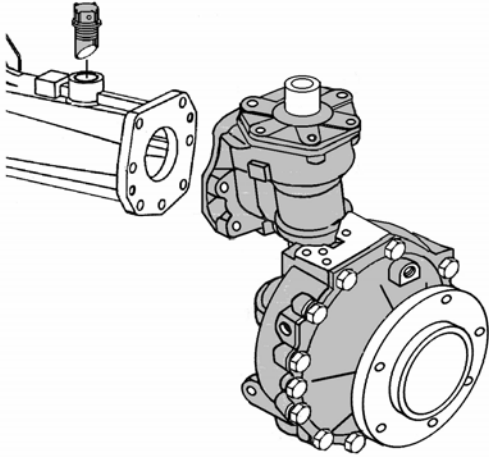

Fig.6-13
- 4) remove both final case assembly (A and B) from the front axle(Fig.6-13)